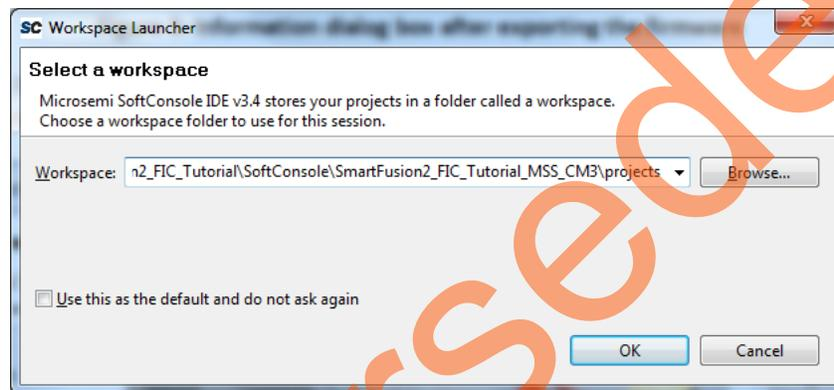

Figure 41 • SoftConsole Workspace Launcher
- Click **Start > Programs > Microsemi SoftConsole v3.4 > Microsemi SoftConsole IDE v3.4** or double-click the shortcut icon on your desktop. The **SoftConsole Workspace Launcher** is displayed as shown in Figure 41.